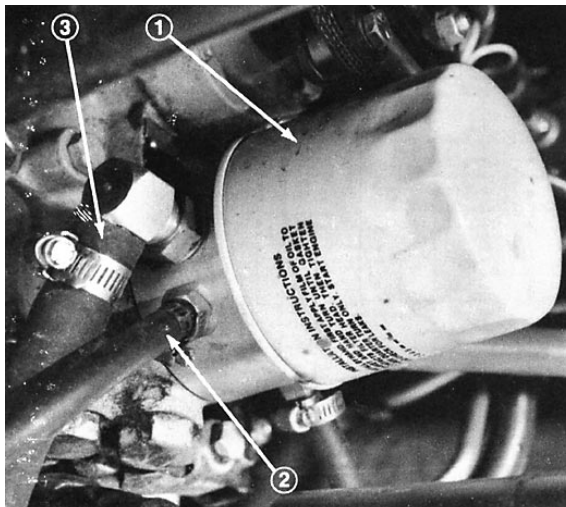

Figure 29
3. Clean the area around the hydraulic oil filter and remove the filter (Fig. 29).